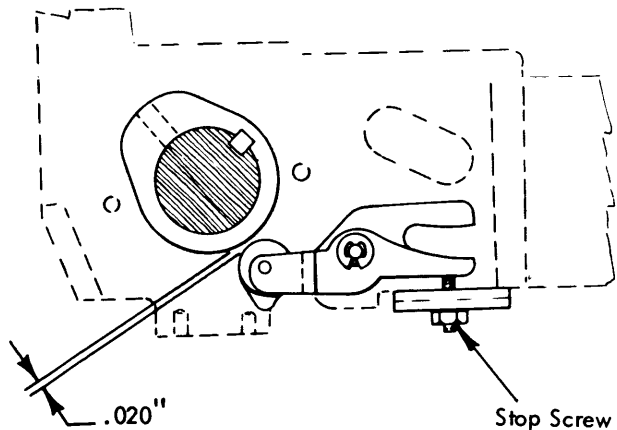

FIGURE 81. Print Cam Follower Stop Screw
7. Print Cam Follower Stop Screw - Adjust the cam follower stop screw so that the print cam follower roller clears the print cam by .020" when the machine is at rest (Fig. 81). This clearance allows the roller to shift from one lobe to the other without rubbing on the cam. Use the following procedure to obtain this adjustment: